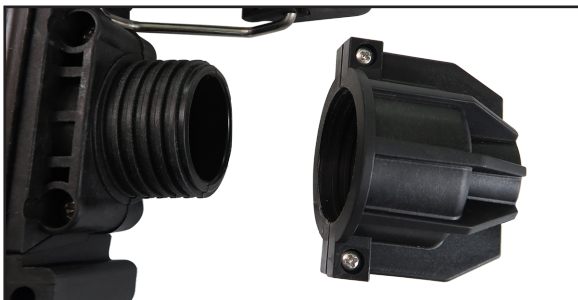

Figure 1-3: Remove the nut component
- 2 Remove the nut component from the pass-through cable entry (Figure 1-3).